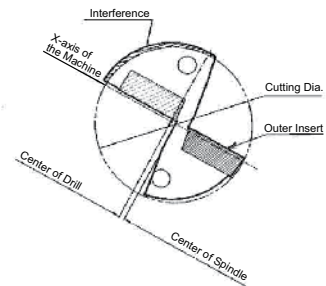

Fig.4 Excessive offset (For Smaller Hole Diameter)
- Align the drill with the outer insert face parallel to the X-axis of the tool turret. (Fig.4)
Otherwise, the toolholder will interfere with the drilled hole. (Fig.4)